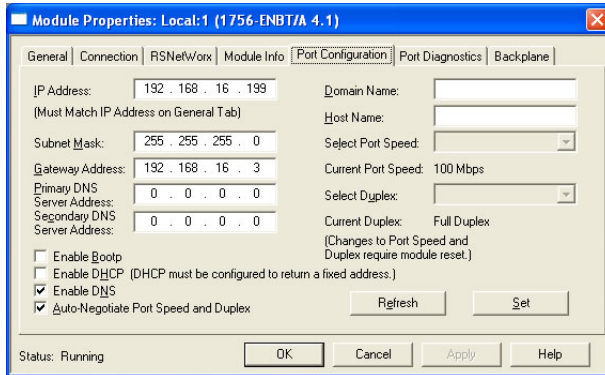

Figure 84: Confirming the Module's Properties
- 11) Confirm that the IP Address, Subnet Mask and Gateway Address fields are configured correctly. The IP Address must match the IP Address entered when the new module was first created. Refer to Figure 84.